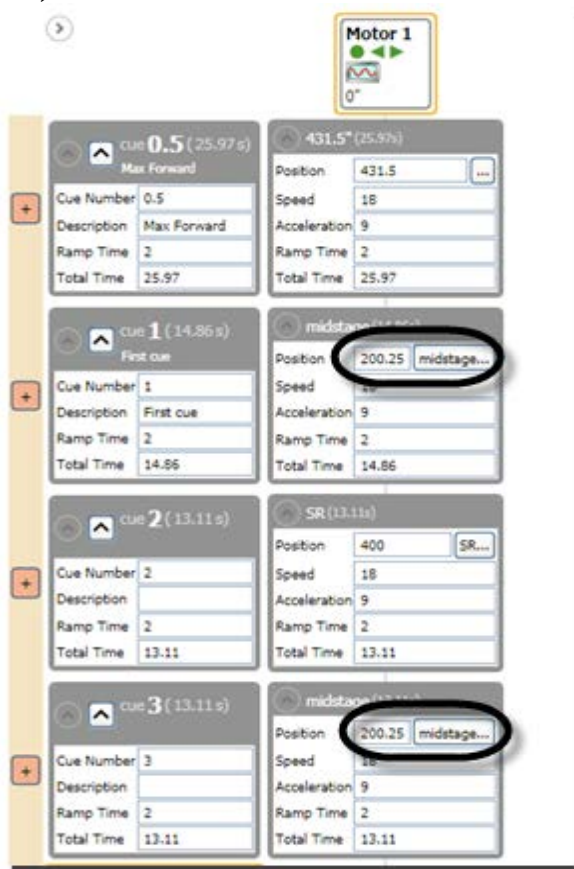

Figure 229
- The position values will update in the cues that reference the Spike you edited (Figure 229).